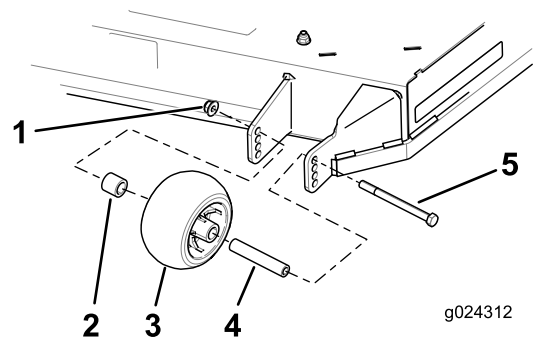

Figure 23
3. Remove the flange nut, anti-scalp roller and bolt from the bracket (Figure 23).
4. Align the bolt and anti-scalp roller in the hole of the bracket that matches the closest height of cut position (Figure 23).
5. Insert the bolt into the bracket hole and secure the bolt and anti-scalp roller with the flange nut (Figure 23).